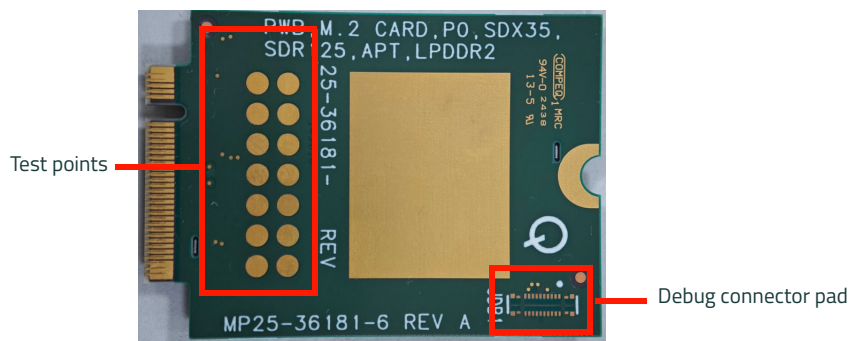

Figure 6-3: Recommended PCB Keep-out Areas
- Note—Sierra Wireless recommends the host device be designed with keep-out areas around the module's exposed bottom-side testpoints and debug connector pad to prevent shorting, as indicated in Figure 6-3.